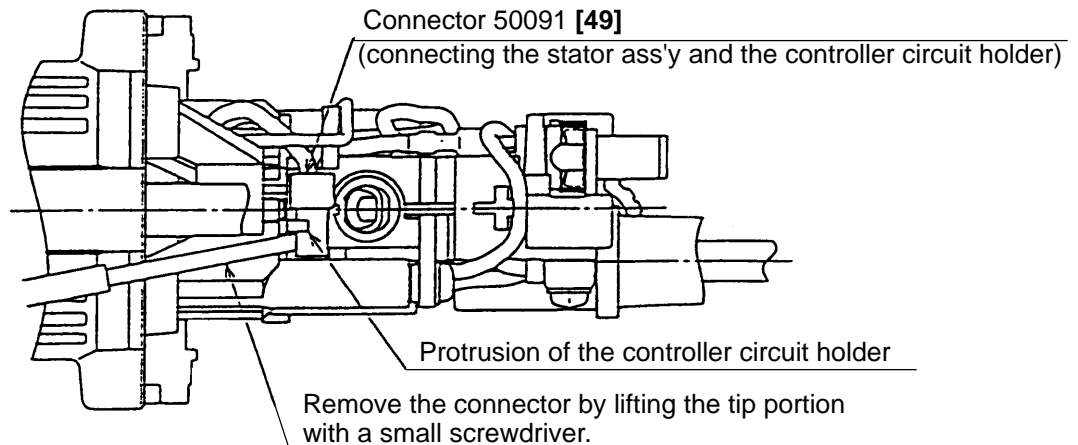

Fig. 7
(4) Disassembly of the power source section
- (c) The Connector 50091 [49] which clamps the internal wire (black) coming from the Controller Circuit Holder [34] and the internal wire coming from the Stator Ass'y [13] is secured at the protrusion of the Controller Circuit Holder [34]. Remove the Connector 50091 [49] by lifting the tip portion with a small screwdriver (See Fig. 7).